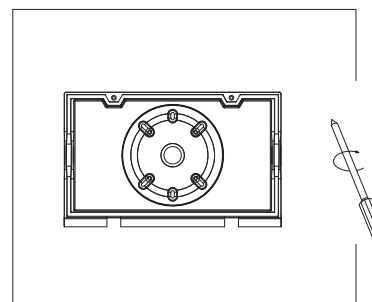

Figure 7
Step 5: Align the holes on the lamp base with the holes on the wall, and tighten the screws (Figure 7)